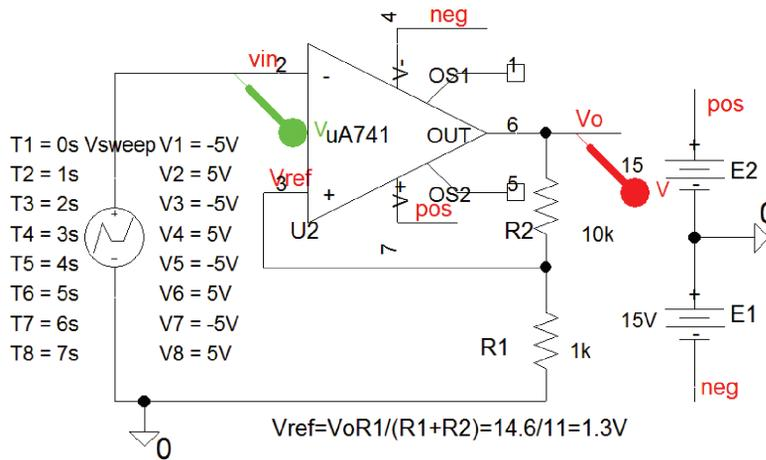
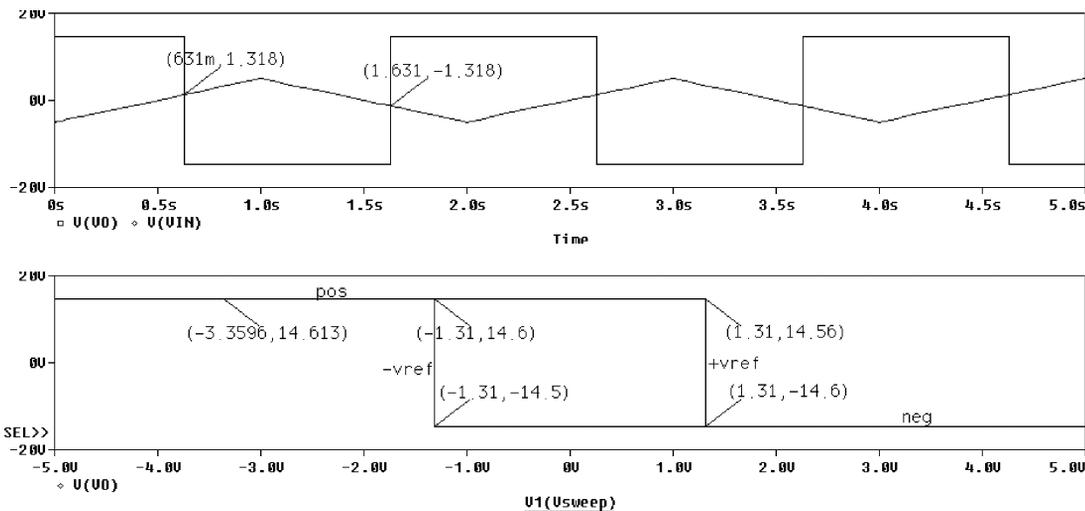
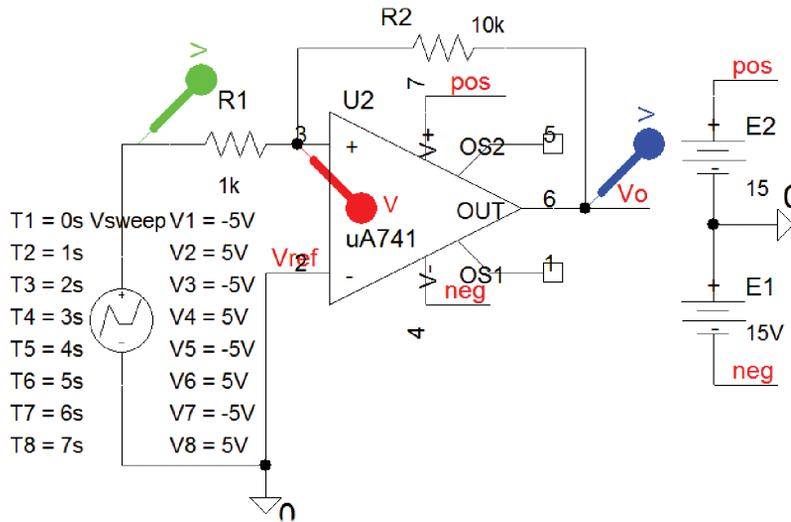
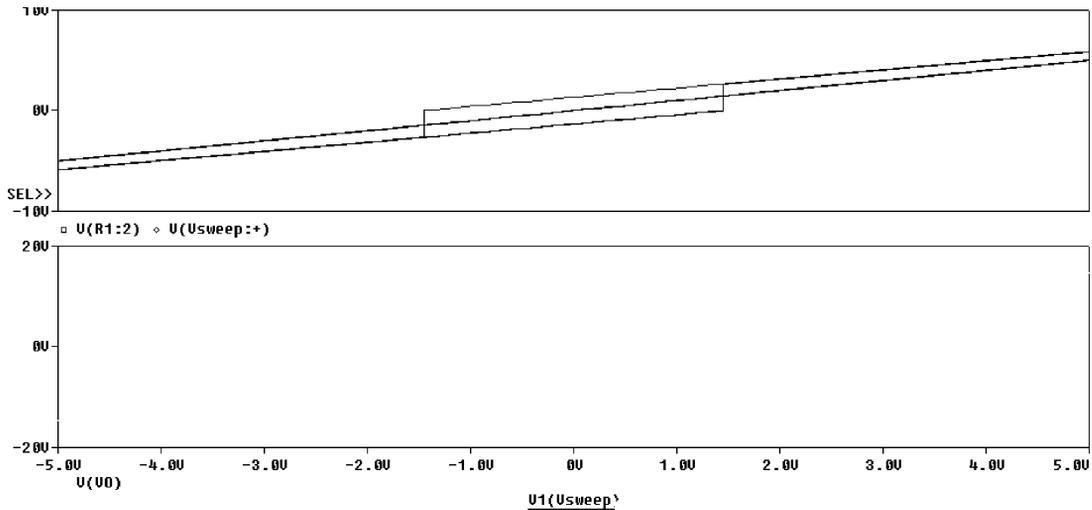

FIGURE 8.33: Schmitt-trigger circuit
FIGURE 8.34: Schmitt trigger hysteresis
FIGURE 8.35: Schmitt trigger
FIGURE 8.36:
- (4) Investigate the Schmitt trigger circuit shown in Fig. 8.33. A VPWL part generates a saw-toothed signal to sweep the input. The reference voltage $V_{ref} = V_o R_1 / (R_1 + R_2) = 14.6.1k / (1k + 10k) = 1.3 V$. Measure the slew rate and compare to the ua741 specification. Change the x -axis to
V_{in} , and press **Alt PP** for a new upper plot axis in time as in Fig. 8.34 (select the **Plot/Unsynchronize X-Axis** menu for the upper plot). This is equivalent to changing the oscilloscope time base to the $X - Y$ mode and connecting a triangle wave from a function generator to the x -plates. Modify Fig. 8.33 to produce the circuit in Fig. 8.35. The hysteresis diagram shown in Fig. 8.36 is now plotted in the reverse direction when compared to Fig. 8.34. Add a noise generator in series with vsweep to verify the effectiveness of hysteresis.